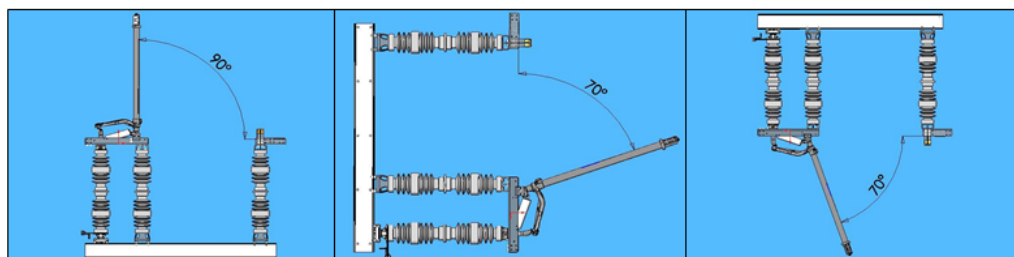
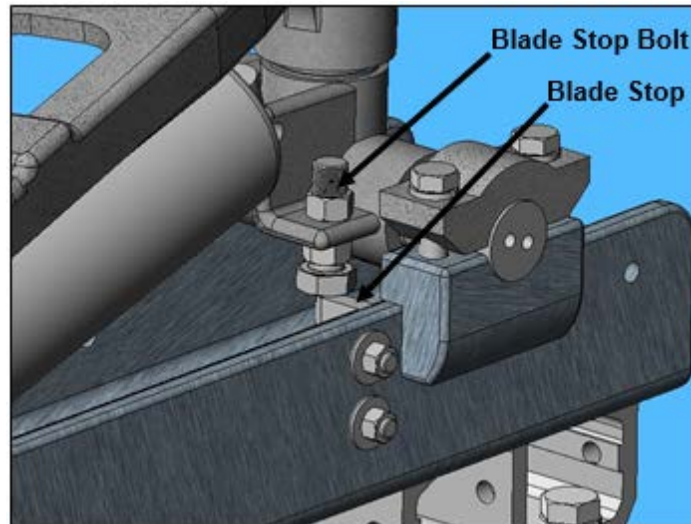

Figure 10: Proper Mounting Positions
Figure 11: BLADE STOP (OPEN POSITION)
- 4.6. The Mounting Positions and Proper Blade Openings are shown in **Figure 10**.
- 4.6.1. Conventional blade open positions are shown in **Figure 10**. The EV-2 switch will be shipped with one of these blade open angles unless another angle is specified. Slight changes to the blade fully open angles are easily made in the field. Simply adjust the open position stop bolt on the blade carrier assembly shown in **Figure 11**, and then readjust the stop located at the bottom of the rotating insulator to match the blade angle.